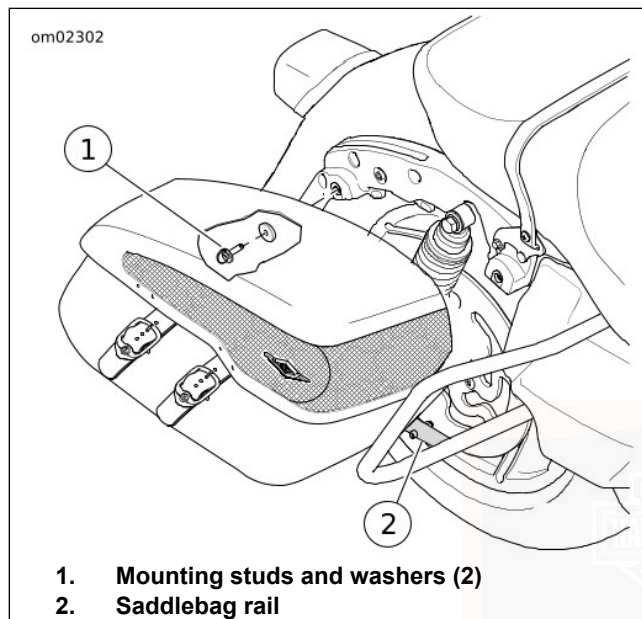

Figure 59. Saddlebag Removal/Installation: FLHRC
2. See Figure 59. Rotate the mounting studs a quarter turn counterclockwise to disengage the saddlebag from the mounting bracket.